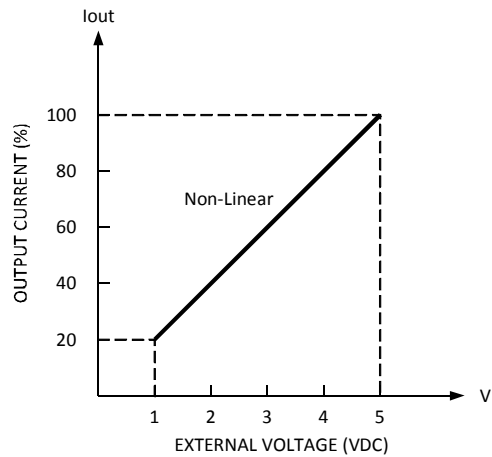

Fig 4.2
- (3) Adjustment of output current is possible between 20~100%(Typ.) of its rated current which is shown in Fig 4.2.